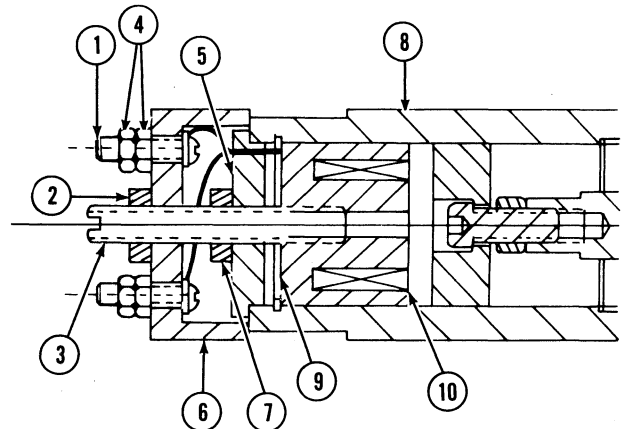

Figure 40
- a. Insert the allen head screw (1) through the clapper and thread the locknut (3) onto the screw until it contacts the clapper.
6. Reinstall the electromagnet (10), Figure 40, into the tube (8) as follows: